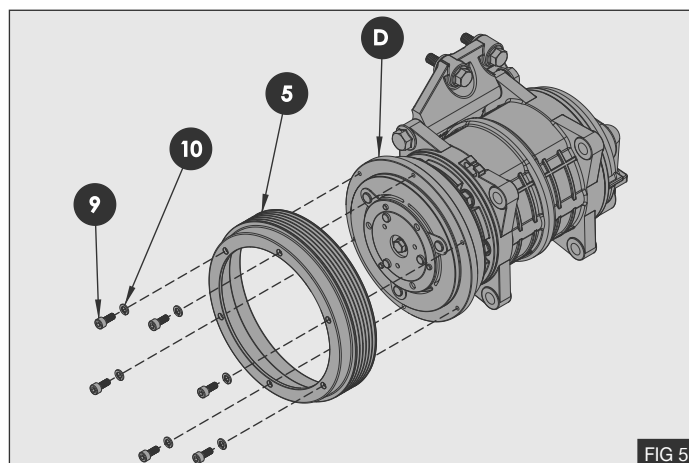

FIG 5
8. Fit the supplied speed rotor (5) to the compressor clutch (D) using 6 x M5 cap head screws (9) and M5 spring washers (10) - Fig 5
9. Torque M5 cap screws (9) to 6Nm / 4.5Lb.ft